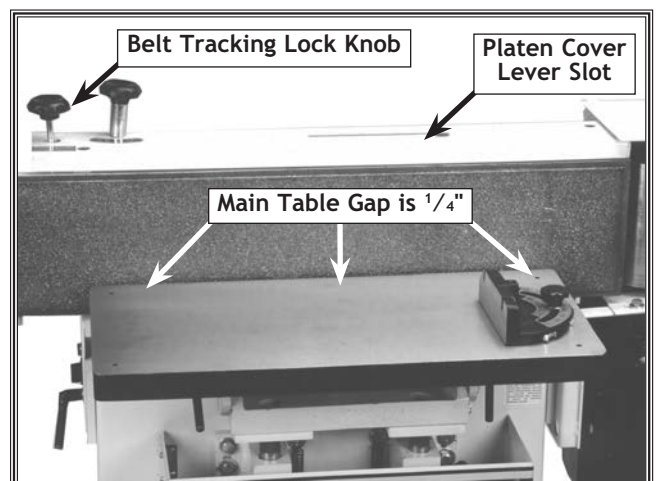

Figure 16. Main table gap.
- Slide the main table toward the platen so the table-to-platen gap is no more than $\frac{1}{4}$ " at both ends of the platen. See **Figure 16**.
1. Loosen the belt tracking lock knob. See Figure 16.
2. Slide the quick release lever through the platen cover lever slot. See Figure 16.